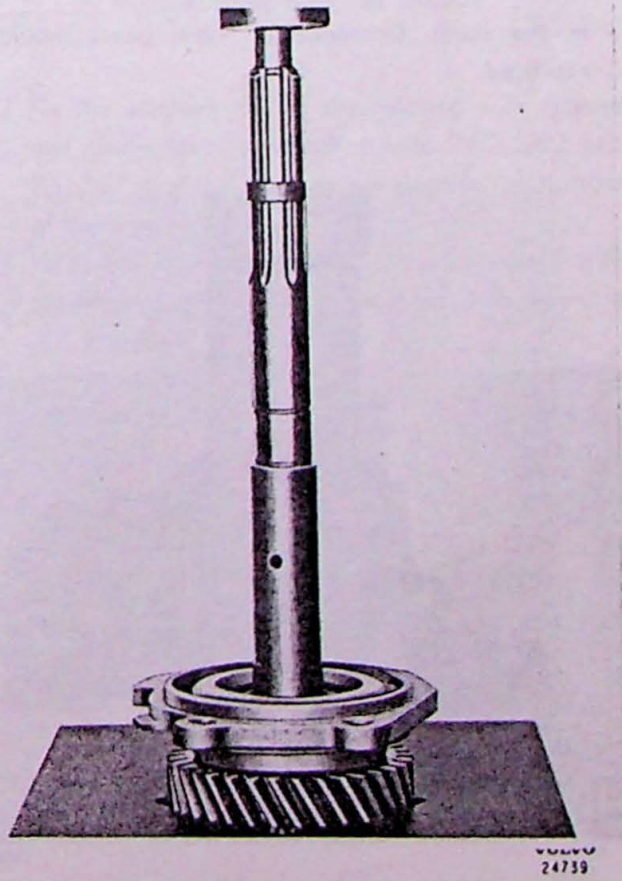

Fig. 3-20. Disassembling mainshaft, II
Remove the locking ring and press off the cam for the overdrive oil pump. Remove the locking ring for the mainshaft rear bearing. Slide the engaging sleeve (41) for 1st and 2nd speeds forwards. Place the shaft in a press and support under 1st speed gear wheel (10). Press out shaft, see Fig. 3-20.
3. Remove the locking ring on the front end of the shaft. Pull off the synchronising hub (53) and 3rd speed gear wheel (49). Remove the needle bearing (50) and thrust washer (48).
4. Remove the locking ring (47) and then the thrust washer (46), 2nd speed gear wheel (45), needle bearing (44), synchronising cone (42) and spring.
5. Remove the sealing ring (18) from the rear cover (17) and take out the speedometer gear (11). If necessary, remove the locking ring and press out the ball bearing (15).